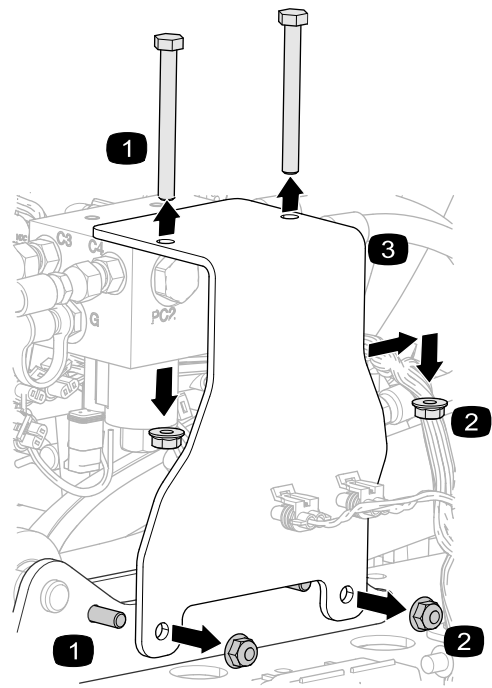

Figure 11
1. Remove the nuts and bolts that secure the mounting bracket to the lift-cylinder manifold and the mount plate (Figure 11).